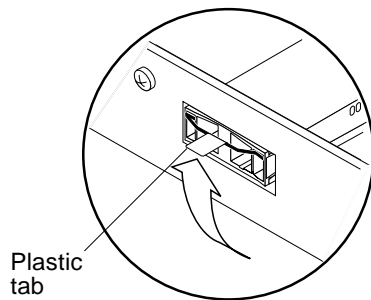

FIGURE 1-6 Moving the Bail to the Unlocked Position
2. Move the bail to the unlocked position (FIGURE 1-6).